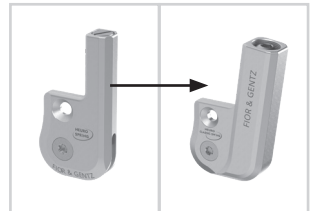

fig. 24
- 3 Mount the functional unit of the NEURO CLASSIC-SWING system joint in the correct system width (fig. 24).